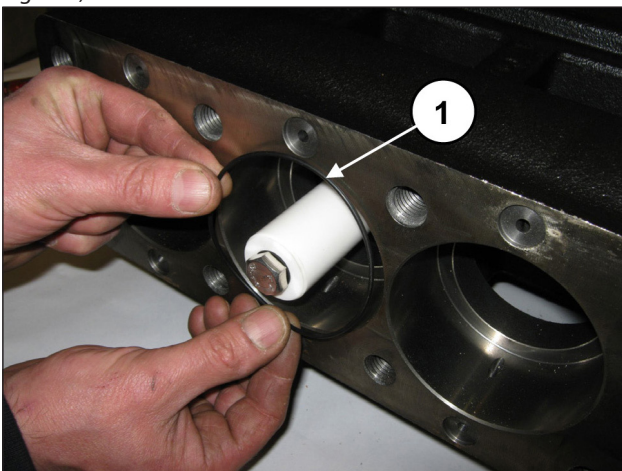
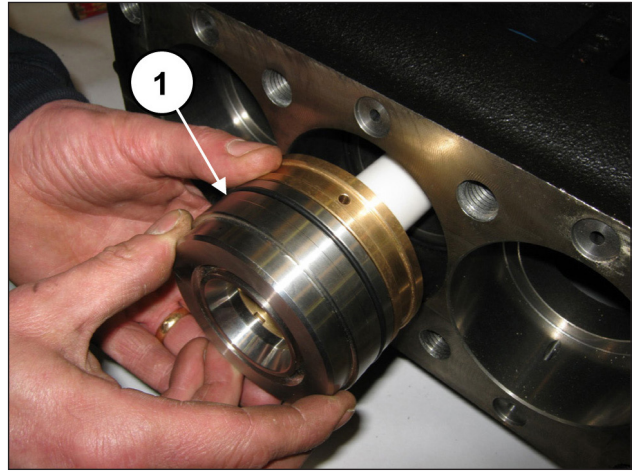

Fig. 184
Fig. 185
Calibrate the screws with a torque wrench as indicated in chapter 3. Insert the O-ring inside the pump casing (pos. ①, Fig. 184) and then the previously-assembled liner-seal support block (complete with the same O-ring) to end stroke (pos. ①, Fig. 185).